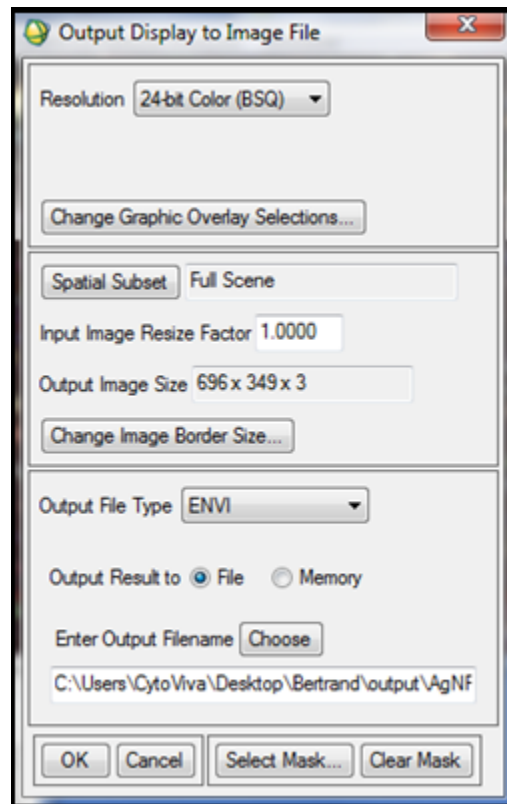

Figure 2.9a. Output Display to Image File
- The Output Display to Image File dialog opens (Figure 2.9a).